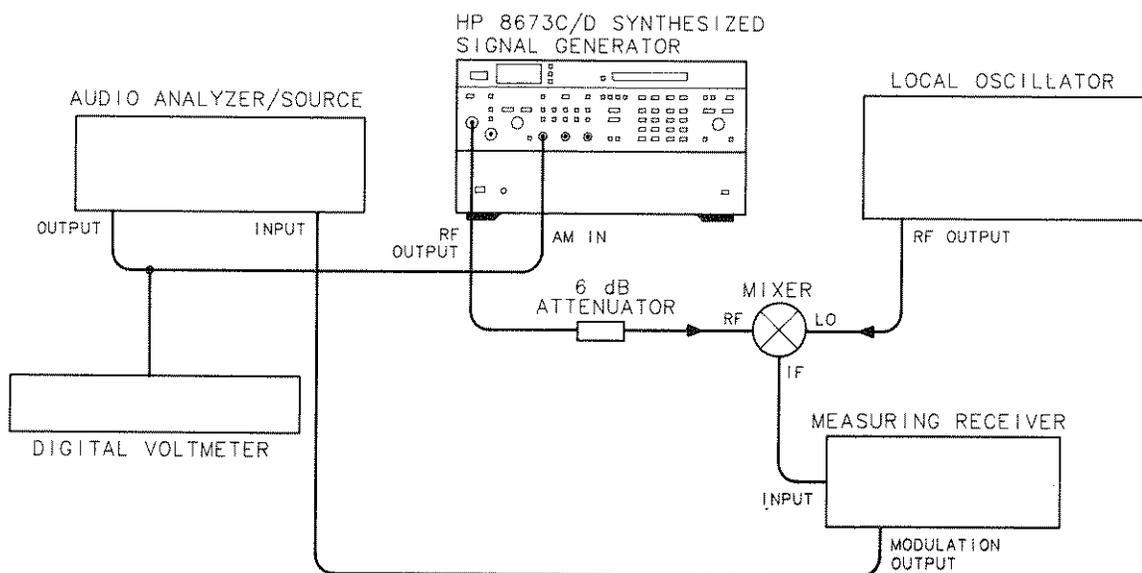

Figure 4-33. AM Accuracy Test Setup
1. Connect the equipment as shown in Figure 4-33.